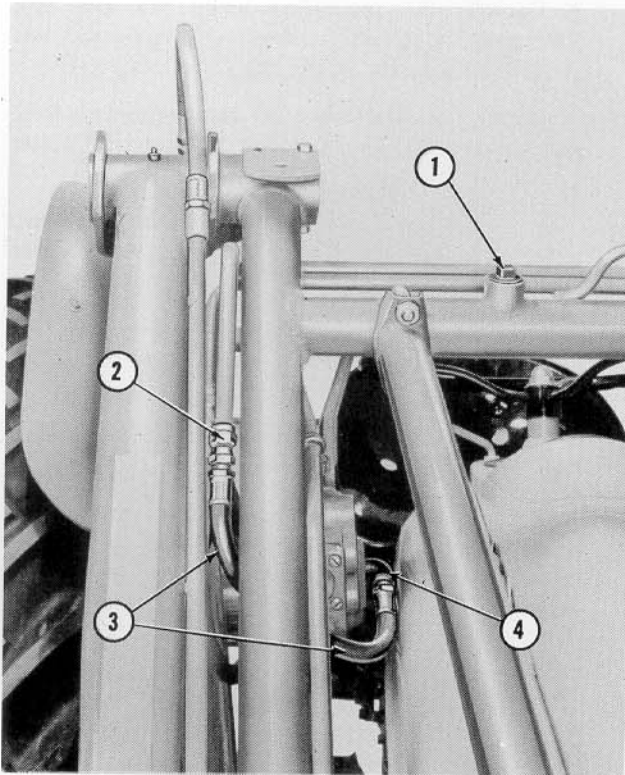

Figure 12
a. Coat the threads of a $\frac{3}{4}$ " x 90° street ell with plumber's compound and turn it into the single outlet on the left side of the control valve. Next, coat the externally threaded end of a hose (3) Figure 12, and turn it into the street ell as shown at (4), Figure 12.
15. Connect the free end of the hose assembly (3), Figure 12, to the equalizer pipe as shown at (2).
- a. Use approximately six (6) gallons of hydraulic oil, Ford Specification M-4864-D, or other hydraulic oil which meets this specification. See your local Ford Tractor and Dearborn Equipment dealer.
- b. Remove the 1" pipe plug (1), Figure 12.
- c. Fill the reservoir with approximately five (5) gallons of oil.